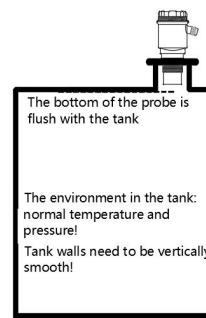
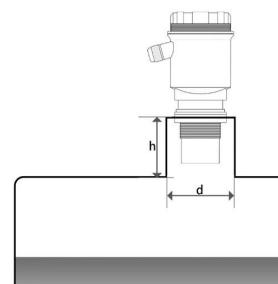
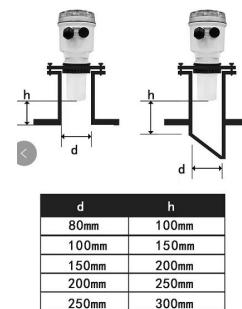

Figure 3
Figure 4
Figure 5
The following echo curve is shown in Figure 2. Press the plus key to return to the liquid level and empty height mode. (Figure 3)
5) For flange installation on tanks at normal temperature and pressure, the probe surface of the instrument is best exposed in the tank, as shown in Figure3; if it is not possible in the field environment, the diameter of the pipe fixing the flange is shown in Figure 4 and Figure 5, and the length h is between 100mm-300mm The larger the h value, the larger the corresponding d value.